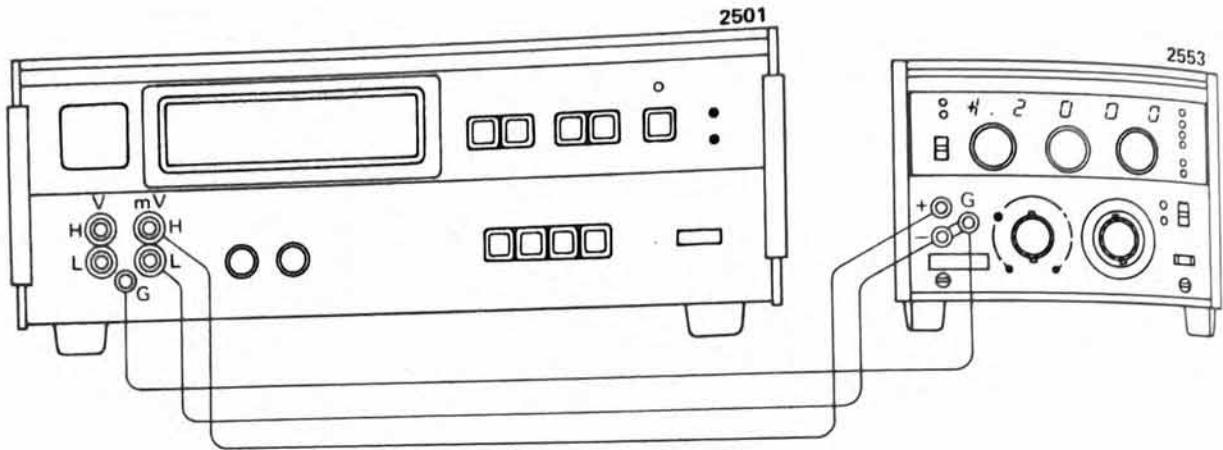

Figure 2-4. Setup for Accuracy Inspection of DC mV Output Corresponding to Thermo-emf.
- a) Connect this instrument and Type 2501 as shown in Figure 2-4, and measure mV output